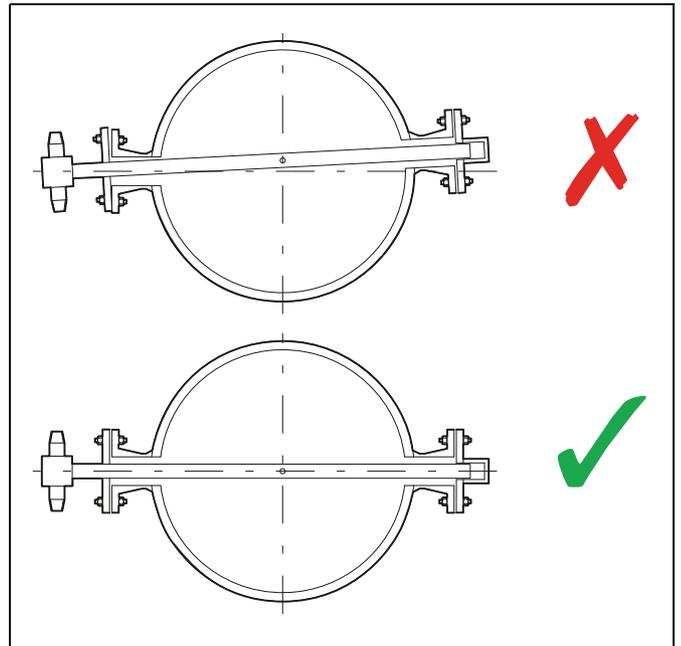
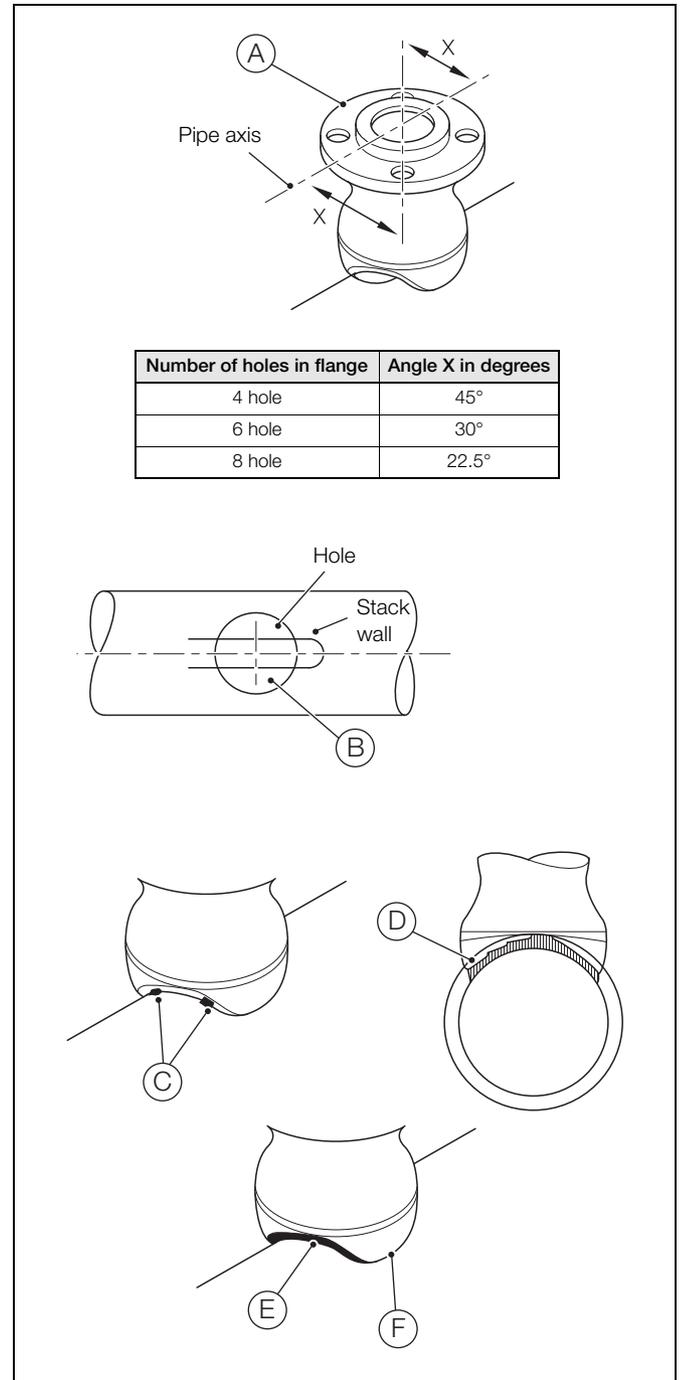

Fig. 3.2 TORBAR alignment (viewed from above)
Fig. 3.3 Flanged pipe fitting (stand-off) installation
Referring to Fig. 3.2, install TORBAR:
3. Referring to Fig. 3.3:
- a. Place the flanged pipe fitting (stand-off) (A) centrally over the drilled hole and align it correctly to the axis of the stack (angle X) according to the number of bolt holes in the flange. Ensure it is perpendicular to the stack axis and square to the stack plane.
- b. Use suitable spacers (B) to raise the flanged pipe fitting (stand-off) off the stack to establish the necessary gap for full-penetration welding.
- c. Tack-weld at four points (C) midway between the crotch and the skirt sections of the fitting.
- d. Using a suitable piece of pipe, ensure the flanged pipe fitting (stand-off) is correctly aligned with the stack (see Fig. 3.2, page 5) and concentric with the hole.
- e. Remove the spacers (B).
- f. Apply a full penetration root run completely around the base of the flanged pipe fitting (stand-off) at the clearly-defined weld preparation line (D).
- g. Make reinforcing welds at the crotch bevelled areas (E) of the flanged pipe fitting (stand-off) to provide maximum weld at the crotch tapering to a minimum at the skirt (F).